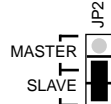

Fig. 5
- To synchronise up to 50 UCM modules, ensure one unit is set to master. Locate jumper on header **JP2** and set to **MASTER** position on master unit only. Set all other units to the **SLAVE** position. See Fig.5.